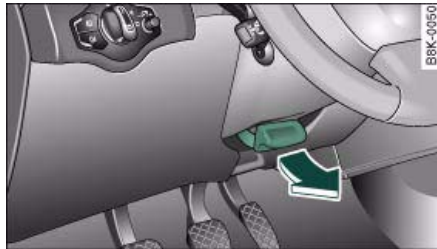

Fig. 129 Lever beneath steering column
- Pull the lever ⇒ fig. 129 -arrow- ⇒ ⚠ up.